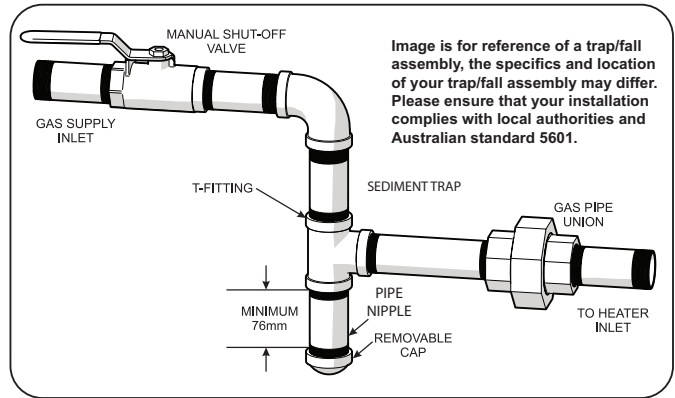

Figure 15. Manual Shut-off Valve and Sediment Trap
- Where required by local code, install a sediment trap/condensate fall and gas union in accordance with Australia standard 5601. See *Figure 15*.
Do not use flexible appliance connectors on any gas connections unless the connector is Australian approved for outdoor installation, and is marked with the BTUH capacity (which must be equal to or greater than the heater rated input) and the type of gas (Natural or LP). Also, any flexible connectors, such as CSST buried underground must be certified for underground installation and meet all applicable codes. Please note, use of flexible connector still requires the installation of a sediment trap. See *Figure 15*.